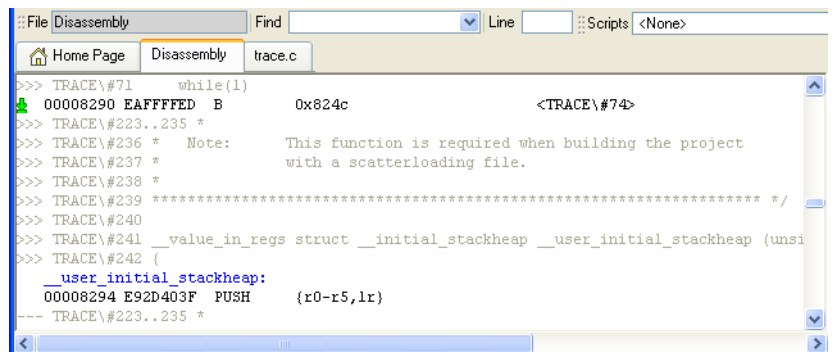

Figure 10-31 End of Trace Range set
- e. Click **OK**. The dialog box closes, and the End of Trace Range tracepoint is set as indicated by the green arrow . Figure 10-31 shows an example: